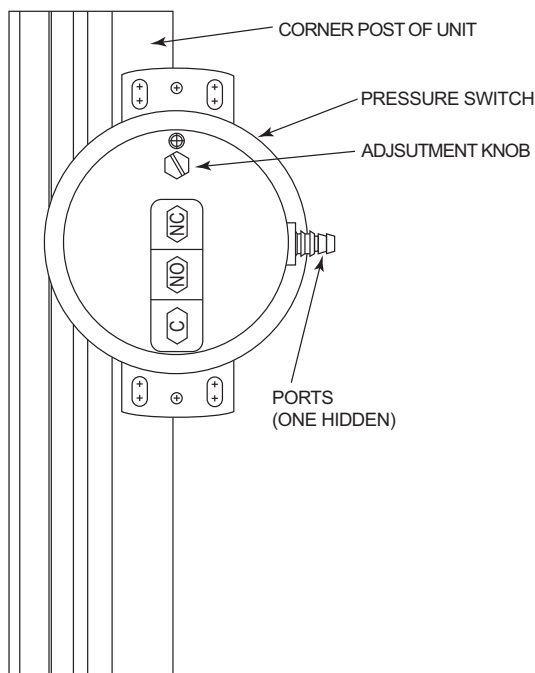

Fig. 2 - Mounting Filter Status Switch
4. Secure the pressure switch to the upper most portion of the inner flange of the corner post with the #10 screws provided. See Fig. 2. Refer to alternate mounting for optional mounting with an economizer.